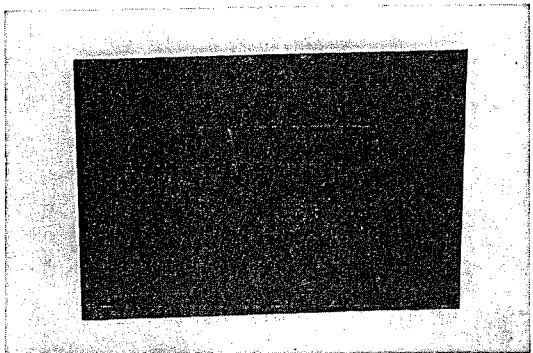

Fig. 5.71 Separators
3) Separators (Refer to Fig. 5.71)